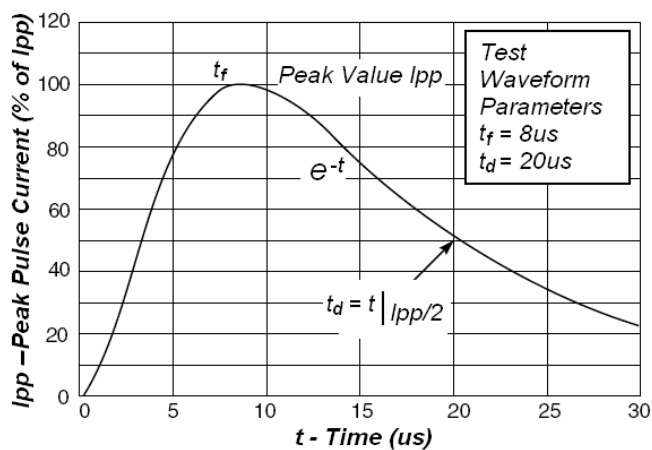

Fig1. Pulse Waveform
*Surge current waveform per Figure 1.